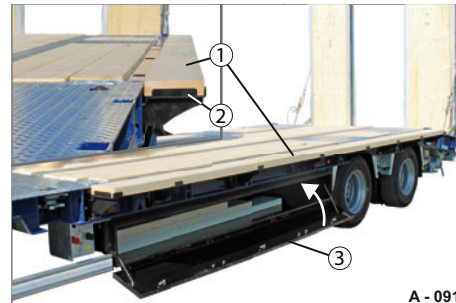

Fig. 82 All planks inserted
- Position all planks on every vehicle side (Fig. 82/1) up to contact - they must be clamped between the limit positions (Fig. 82/2).
- Close the lid (Fig. 82/3) of the stowage box.